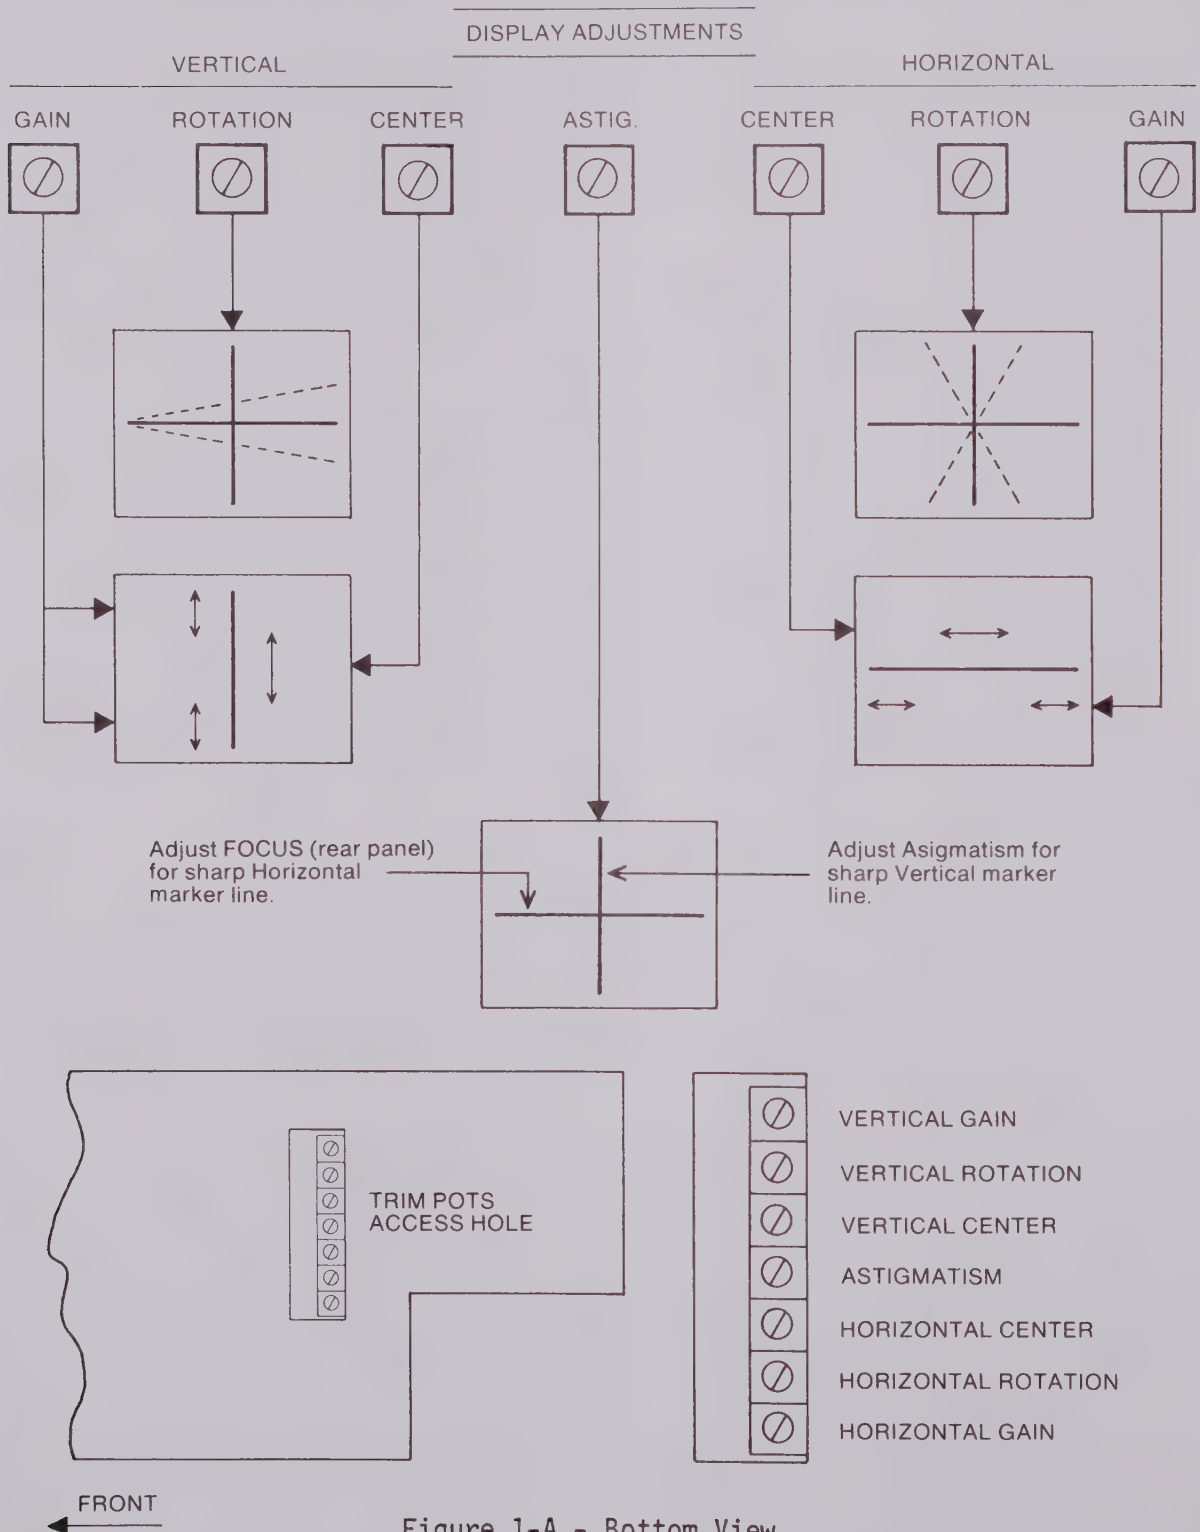

Figure 1-A - Bottom View
4. Apply the square wave to the input BNC using the capacitance network illustrated in Figure 1.
6. Retain Reference switches: 1 & 3 (UP), 2 & 4 (DOWN)